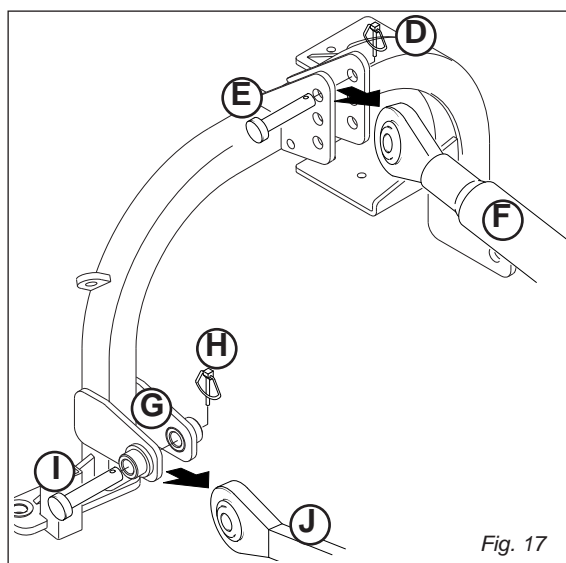

Fig. 17
5. Remove quik-lock pin (D, Fig. 17) and pin (E, Fig. 17) from center link (F, Fig. 17).
6. Remove draft links (J, Fig. 17) from draft link brackets (G, Fig. 17) by removing quiklock pins (H, Fig. 17) and pins (I, Fig. 17).